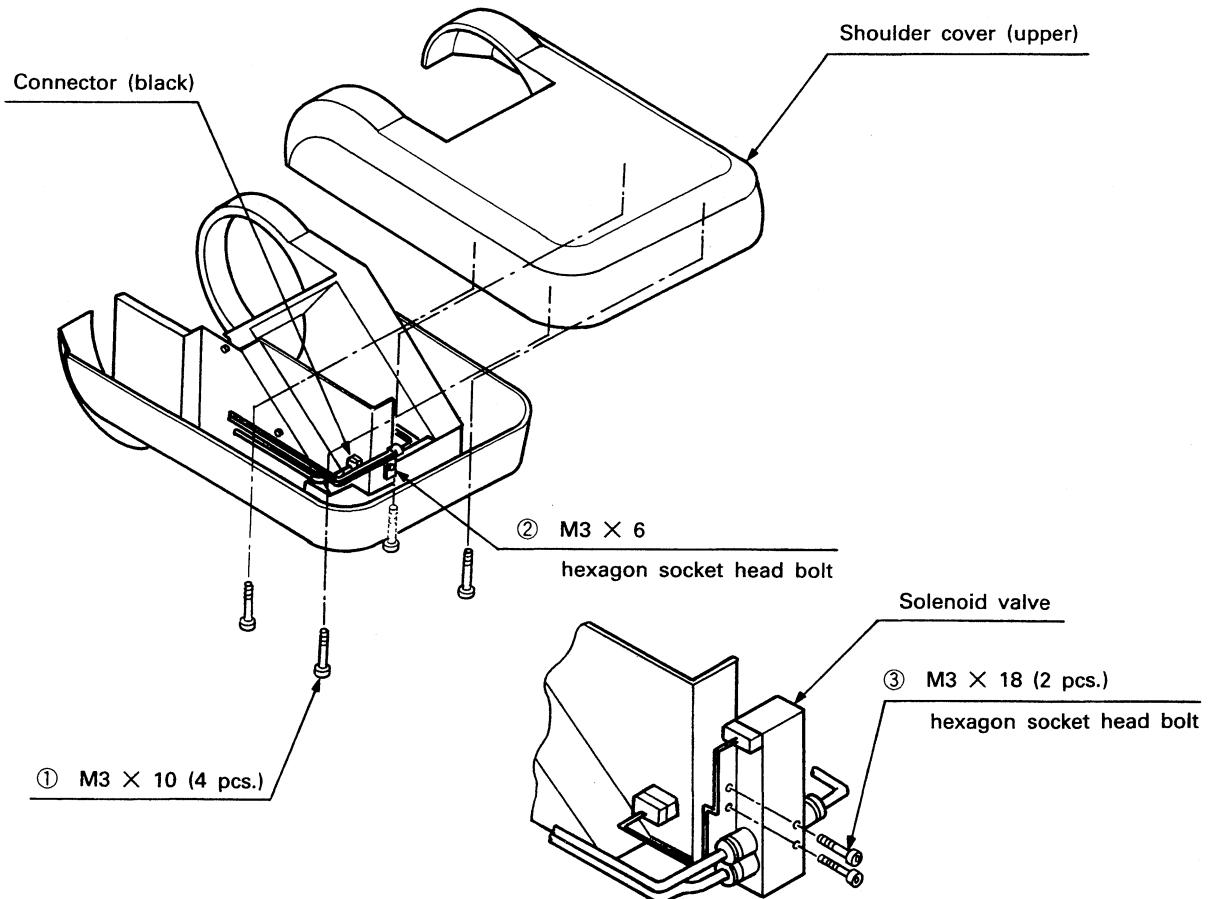

Fig. 2.1.14 Installation of the Solenoid Valve (Option)
- (1) Fig. 2.1.14 shows the way of installing the solenoid valve (option).
- (2) Remove the four M3 X 10 screws ① and remove the shoulder cover (upper).
- (3) Remove the M3 X 6 hexagon socket head bolt ② to free the air tube.
- (4) Install the solenoid valve by threading the two M3 X 18 hexagon socket head bolts ③ into the screw hole from which the bolt has been removed at step (3) and the screw hole below it.
- (5) Disconnect the "HAND. M" connector (black) and connect the solenoid valve connector.
- (6) Fit the air tube freed at step (3) into the solenoid valve fittings as shown in Fig. 2.1.14.
- (7) Reinstall the shoulder cover (upper) in the reverse procedure of step (2), using care not to get the cable caught.